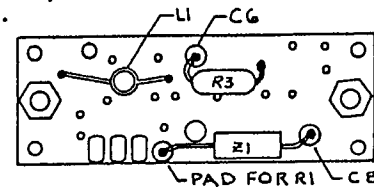

Figure 3. Bottom View, LNW-432 Preamp
m. Turn the preamp over and orient it as shown in fig 3. Solder one lead of R3 to the pin on ft cap C6. Form the resistor down on an angle toward board, and tack solder the other lead to the ground plane as shown. There is no hole for the ground lead. Do not lay the resistor along the conductor strip carrying the transistor drain signal. Keep the resistor off the board a little to avoid loading effects. Although not shown in the view of fig 3, the resistor body is angled down from the ft cap to the board, and that prevents loading and keeps resistor leads short.
n. Coil L1 is a 2-3/8 inch length of #22 bus wire wound as 2-1/2 turns on 7/64 inch inside diameter with turns barely spaced apart so they don't short together. A drill bit can be used as a forming tool. The coil is mounted horizontally under the board, as shown in fig 3, with the lead closest to the board soldered to the ground plane pad and the other lead soldered to the pad connected to transistor gate-1. The coil should be spaced just a little away from the board so the bottom of the coil isn't shorted to ground.
o. Position ferrite bead Z1 as shown in fig 3. Solder one lead to the pin on ft cap C8, and tack solder the other lead to the pad for resistor R1.